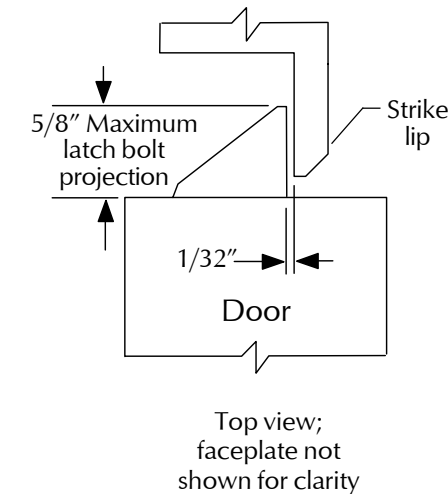
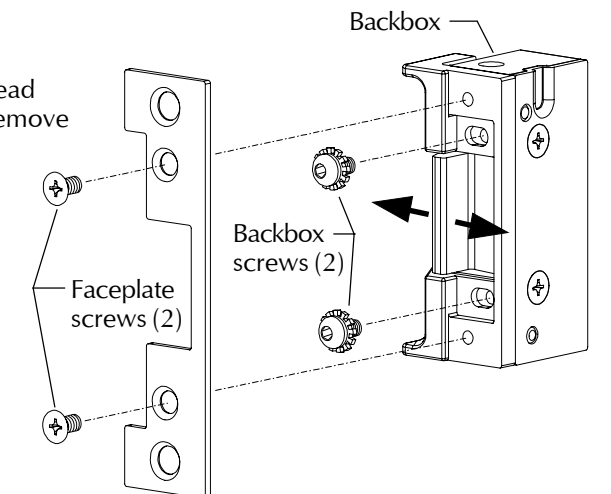

Figure 9
Figure 10
11. Install strike with two #12-24 mounting screws. Make sure clearance between latch bolt and strike lip is 1/32" (Figure 9). If not, remove strike, adjust (Figure 10), and reinstall.